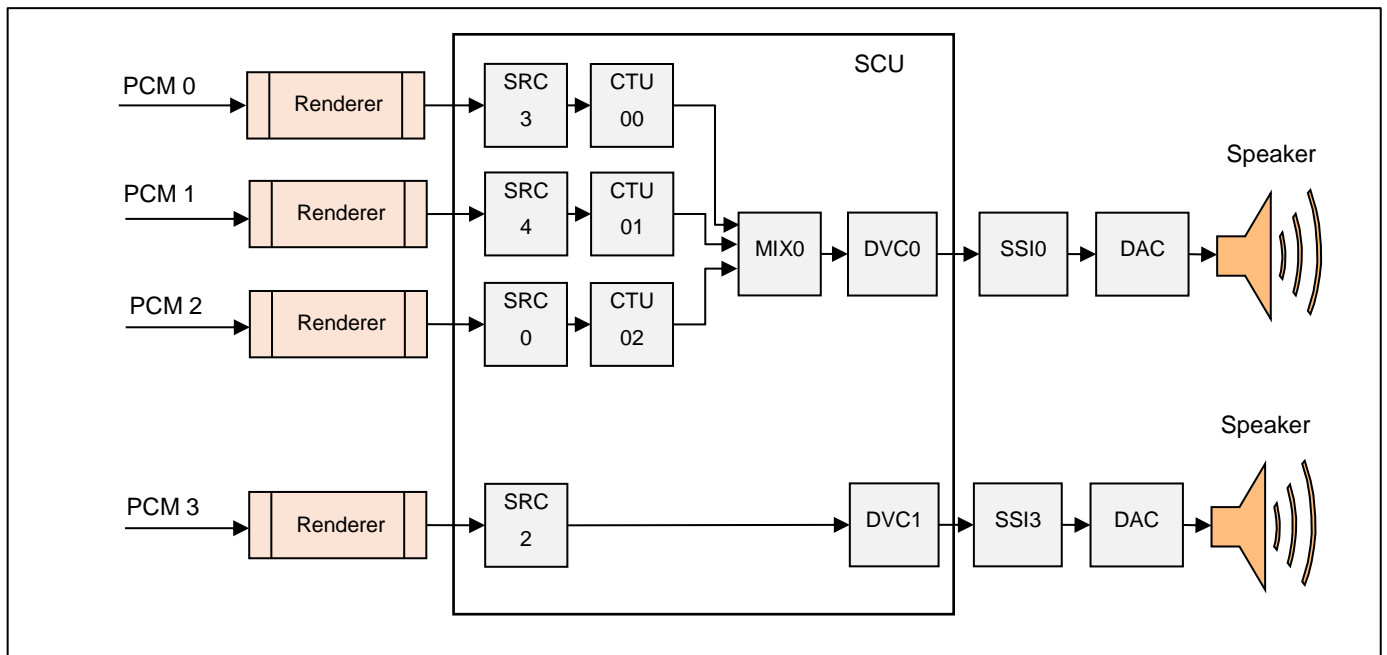

Figure 4-2 Example of using CTU/MIX for 3 streams to SSI0 and another stream to SSI3
- (1) Set mix control flag
- (2) Same output destination
- All plugins have to set the same output SSI module index. Otherwise, the plugin will play independently as PCM 3 in Figure 4-2.
- (3) Input mixing available
- A Mix module supports maximum of 4 streams. So when the 5th stream performs mixing (condition (2)), the busy error of hardware will be returned.
- (4) Consistent PCM's format